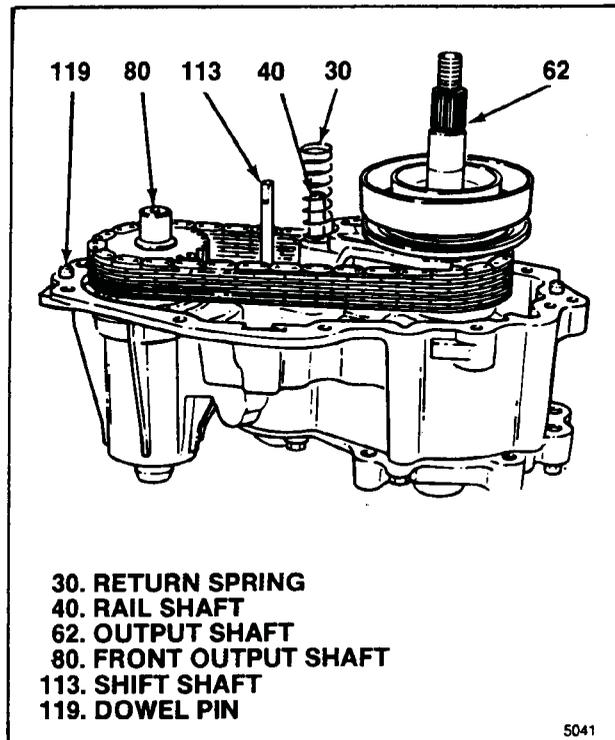

Figure 5-21. Parts To Be Aligned With Cover
d. Install cover assembly (22) on transfer case (121). All of the following alignment conditions must be met for the cover assembly to seat on transfer case properly (see figure 5-21):
1. Cover holes with transfer case dowel pins (119).
3. Blind hole in cover with rail shaft (40). Make sure spring (30) is not cocked. On electric shift, check with pen light through cover hole for speed sensor (13).
4. On electric shift units, cover bore with shift shaft (113).